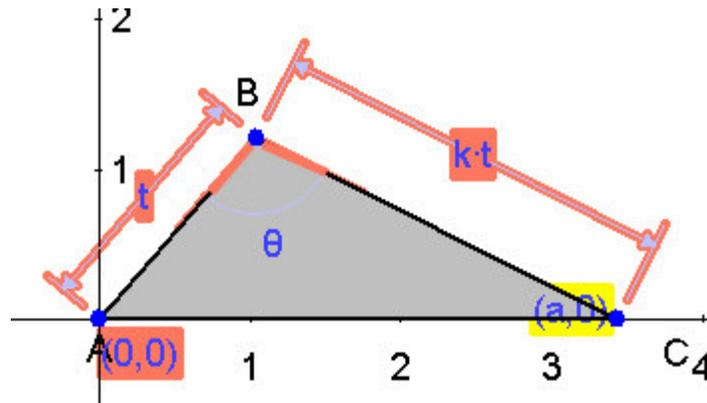
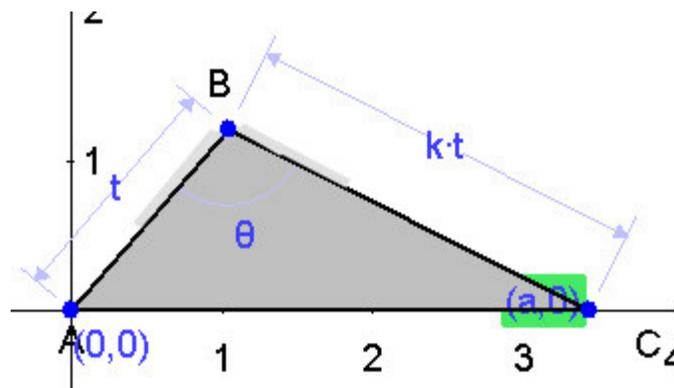

Figure 1
Figure 2
3. If you choose "Relax other constraints so the coordinate is independent", this will keep the new constraint you just entered and allow you to eliminate one of the **red highlighted** constraints (*figure 1*). When you select one of these constraints (in *figure 2* below we clicked on θ), the highlight changes to gray. After you click **Ok**, the selected constraint, the angle θ in this case, is calculated and displayed (*figure 3*).